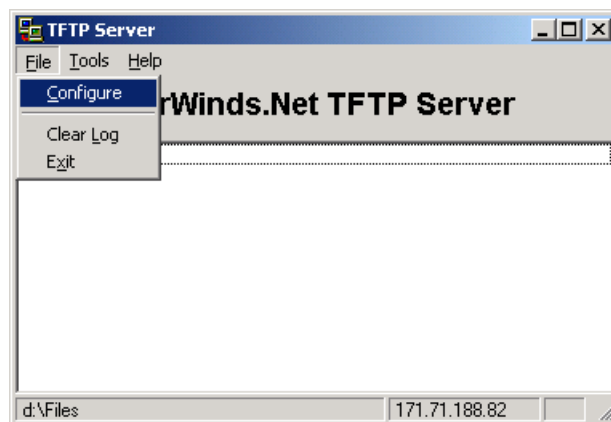

Figure 6-6 TFTP Server window
1. Click **File** → **Configure** (Figure 6-6).